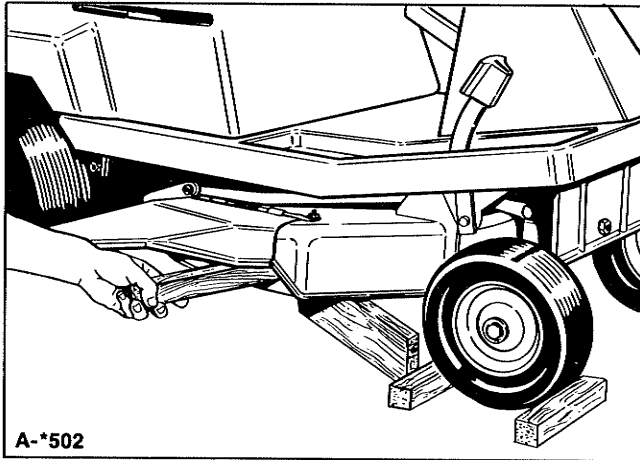

Figure 8. Blade Removal
- To keep the blade from turning while removing the mounting capscrew, wedge a wood block between blade and housing. Insert the block thru the discharge opening and turn the blade counterclockwise until it presses against the block. See figure 8.